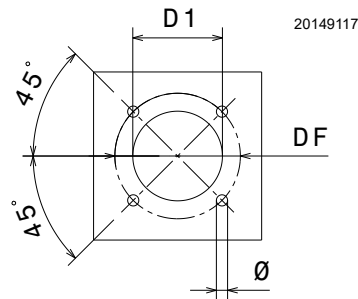

Fig. 15
Pierce the closing plate of the combustion chamber, as in Fig. 15. The position of the threaded holes can be marked using the thermal insulation screen supplied with the burner.
- Fit the entire burner onto the boiler hole prepared previously (Fig. 15 on page 20), and fasten with the screws supplied.